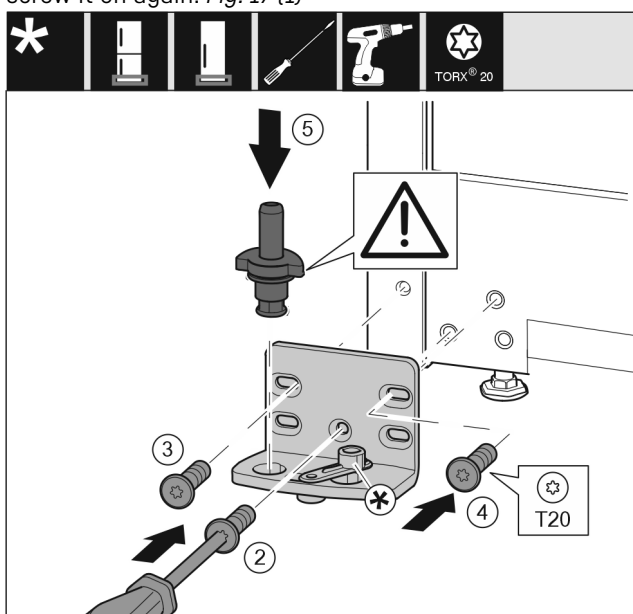

Fig. 18
- Place the bearing bracket on the other side and screw it in using the T20 screwdriver. Start with screw 2 at the bottom in the middle. Fig. 18 (2)
- Screw in screws 3 and 4. Fig. 18 (3,4)
- Insert the bearing pin completely. Make sure that the latching lug is pointing to the rear. Fig. 18 (5)